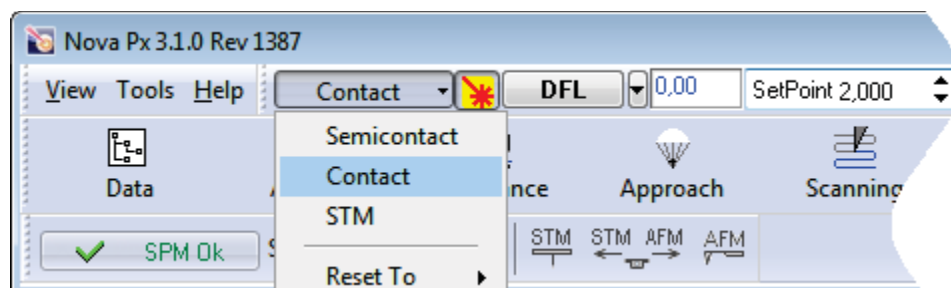

Fig. 13-11. Selecting the controller configuration
1. In the controller configuration drop-down list of the Nova Px program, select **Contact** (Fig. 13-11).